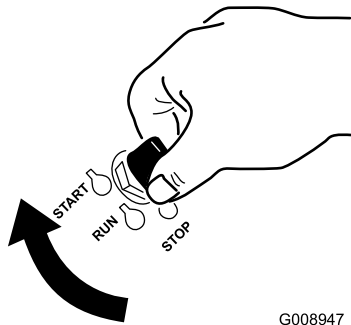

Figure 24
1. Turn the ignition key to the START position (Figure 24).